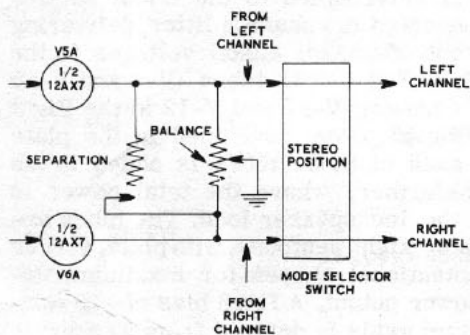

Figure 2A
Signals in both channels are next applied to the MODE SELECTOR switch. Figures 2A through 2D illustrate the functions of this switch in each
**STEREO NORMAL position:** See Figure 2A. Signals from the Left Channel and the Right Channel inputs are fed straight through to the Left Channel output and the Right Channel output, respectively.